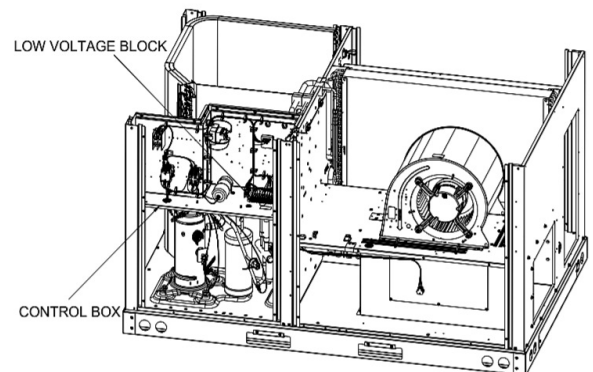

Fig. 1. Unit access panel locations
2. Remove unit control access panels (see fig. 1).
3. Remove heater module access panel (see fig. 1) located below the blower plenum.